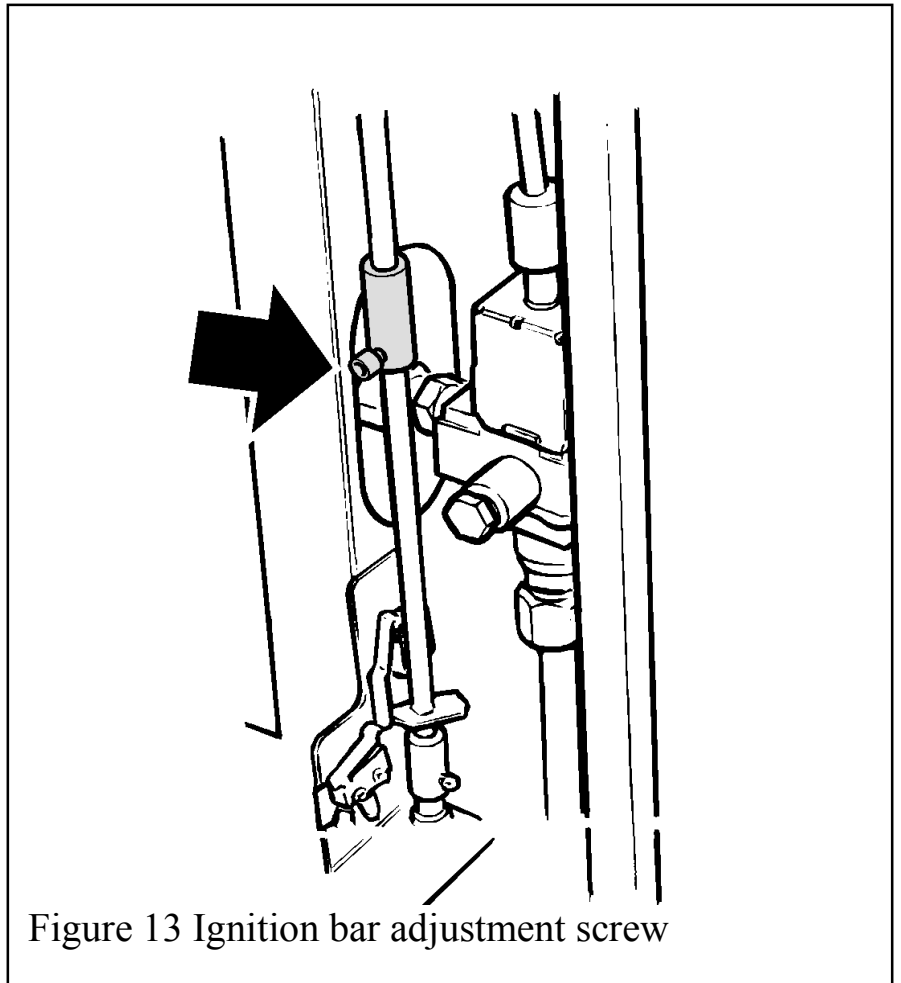

Figure 13 Ignition bar adjustment screw
3. If the ignition bar does not locate satisfactorily through the fascia, loosen the screw securing the ignition bar sleeve (figure. 13).
5. The thermostat wheel height can be adjusted by simply sliding it up or down the spindle and the tightening the bushing below so that it is flush against the wheel (figure 13)